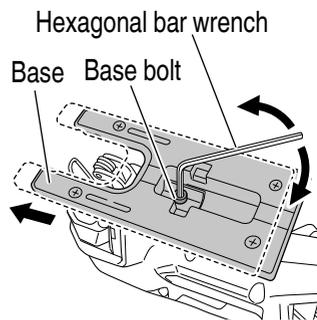

Fig. 24
- (1) Loosen the base bolt by hexagonal bar wrench attached on base. (**Fig. 24**)
- (2) Move the base fully forward (**Fig. 24**), and tighten the base bolt again.
- (1) Loosen the base bolt by hexagonal bar wrench attached on base. (**Fig. 24 on page 55**)
- (2) Move the base fully forward (**Fig. 24 on page 55**), and tighten the base bolt again.
- (3) Set the orbital position to "0".